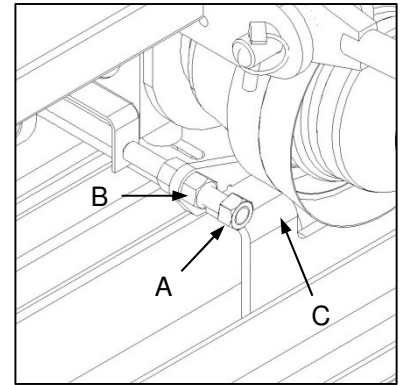

Fig. 12
below the gearbox baseplate (Fig. 12-C).
- ✔ During the belt tensioning process, alignment of the gearbox should be maintained. Use the gearbox positioning lead-screw and locknut (Fig. 12-A and B) for this purpose.
ratkasmonteerbout onder die ratkassteunplaat (Fig. 12-C).
- ✔ Die belyning van die ratkas moet gedurende die bandspanningsproses gehandhaaf word. Gebruik die ratkasposisionering-leiskroef en sluitmoer (Fig. 12-A en B) vir hierdie doel.